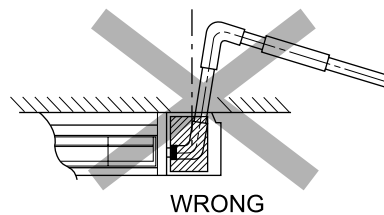

Fig. 29
- Install the drain raising pipes at a right angle to the indoor unit. (Refer to Fig. 29)